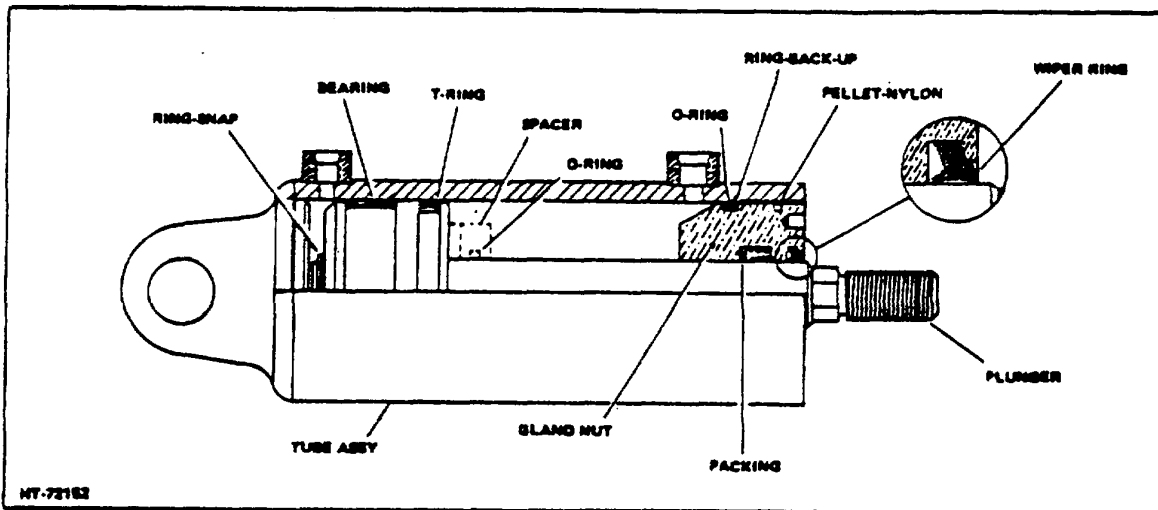

Figure 1-2. Tilt Cylinder
- a. Oil Leakage Gland Nut During the 50 hour inspection, check for oil leakage at the gland nut (Figure 1-2.)011 leakage at the gland nut indicates seals are worn. To stop leakage, remove gland nut with a spanner wrench and replace seals.